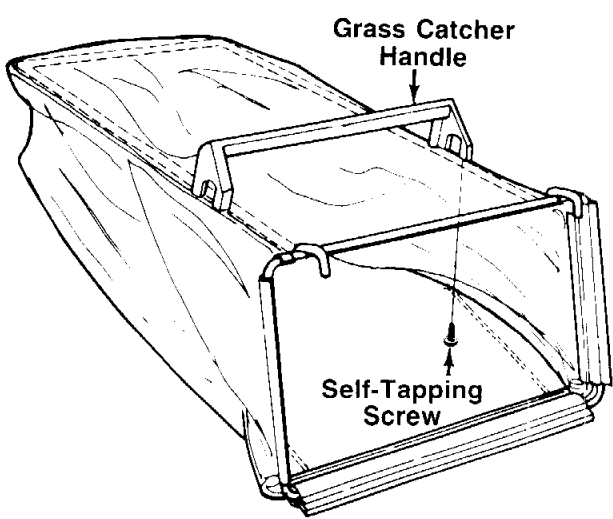

FIGURE 17.
6. Place the grass catcher handle in position on top of the grass bag and frame as shown in figure 17. Secure with four self-tapping screws.